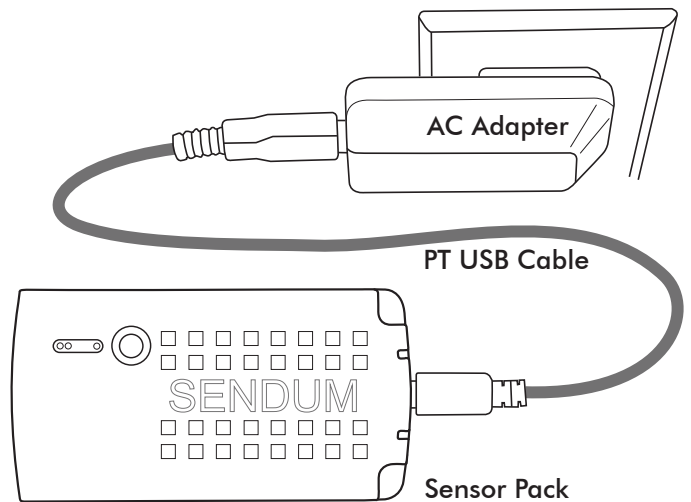

Figure 3 - Charging up a Sensor Pack
- If you are using either the Basic Sensor Pack or the Advanced Sensor Pack, you can charge it by connecting it to the AC Adapter and then plugging the adapter into any standard electrical receptacle (see "Figure 3 - Charging up a Sensor Pack".)